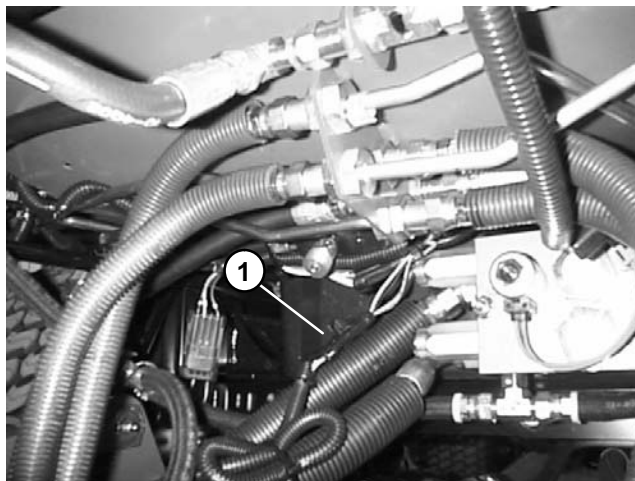

Figure 5
6. Connect cutting deck wire harness to main machine wire harness (Fig. 5).